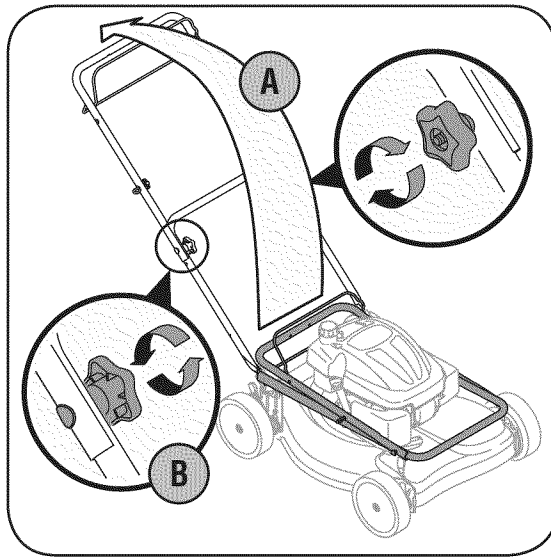

Figure 3-1: Unfold handle and tighten hardware.
- a. Lift the upper handle up from the folded position and pull it back to the extended position. See Figure 3-1. Do not crimp cables. The handle should click into this position.